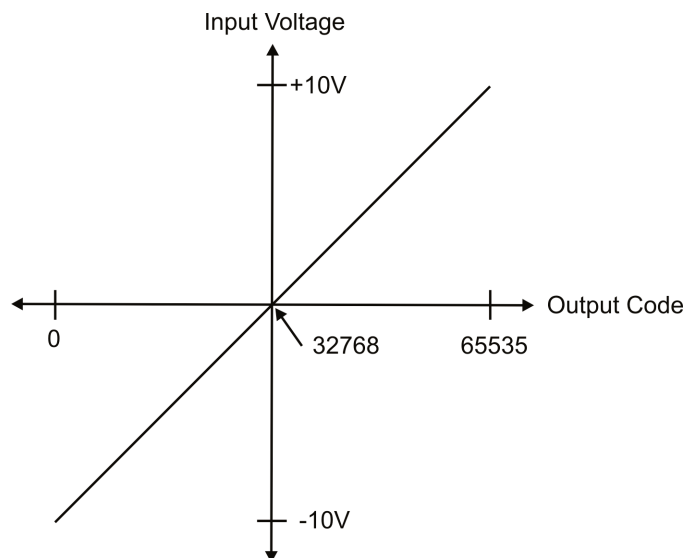

Figure 7. Ideal ADC transfer function
Figure 7 shows an ideal, error-free, USB-7202 transfer function. The typical calibrated accuracy of the USB-7202 is range-dependent, as explained in the *Specifications* chapter on page 20. We use a  $\pm 10$  V range as an example of what you can expect when performing a measurement in this range.
**The accuracy plots in Figure 7 are drawn for clarity and are not drawn to scale.**